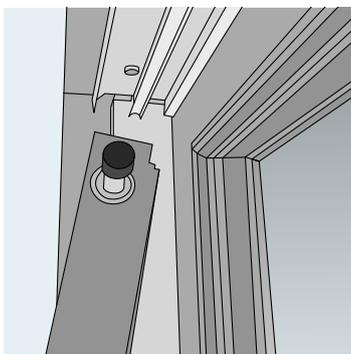

Figure 14
- a. Starting by placing the aluminium part in the top frame (see figure 14, 15 and 16).